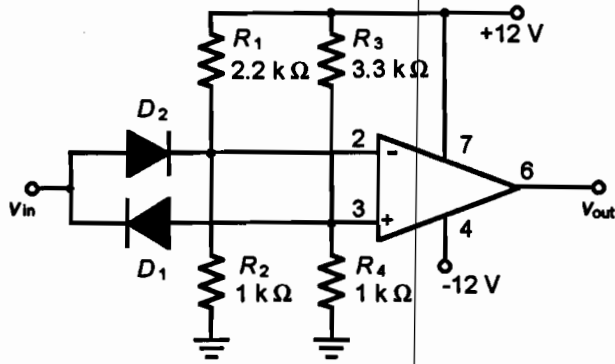

Figure 57.1
1. Build the circuit of Figure 57.1. Apply DC power. Connect your function generator, set to provide a 400-Hz triangular wave at 10 Vp-p.
4. For the circuit of Figure 57.1, what is the new  $V_{LTP}$  if  $R_3 = 3.9 \text{ k}\Omega$ ?